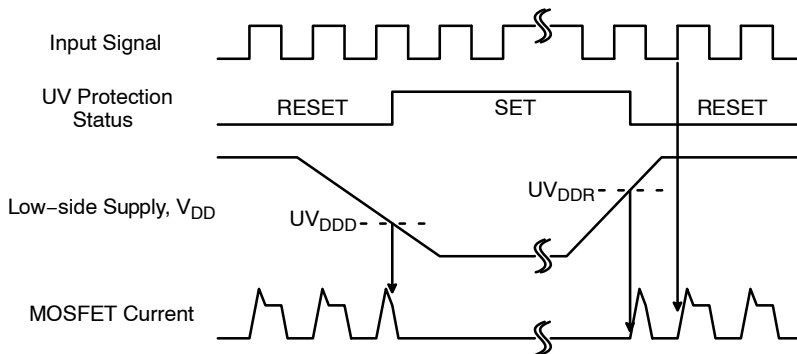

Figure 8. Under-Voltage Protection (Low-Side)
7. The peak current and voltage of each MOSFET during the switching operation should be included in the Safe Operating Area (SOA). Please see Figure 8 for the RBSOA test circuit that is same as the switching test circuit.